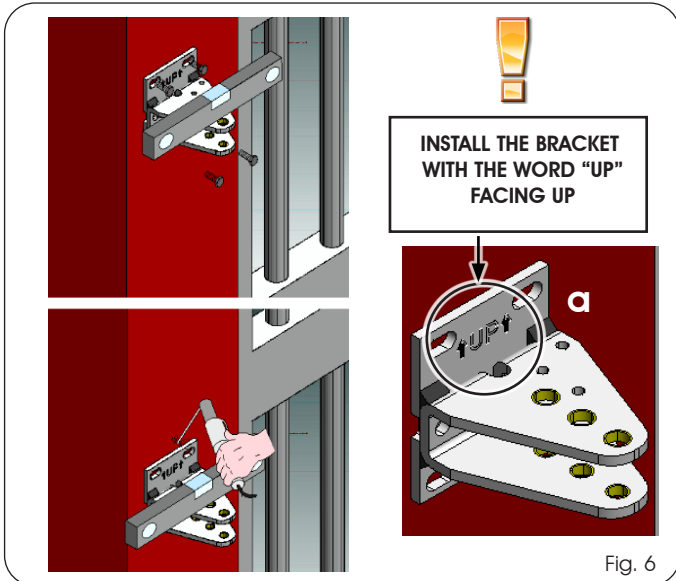

Fig. 6
1. Level then weld the rear bracket to the pillar, or fix it using suitable anchors. Follow the dimensions stated in Tab.1 (never cut the rear bracket; note that it must be installed with the word "UP" facing up as shown in Figure 6 Ref. a).